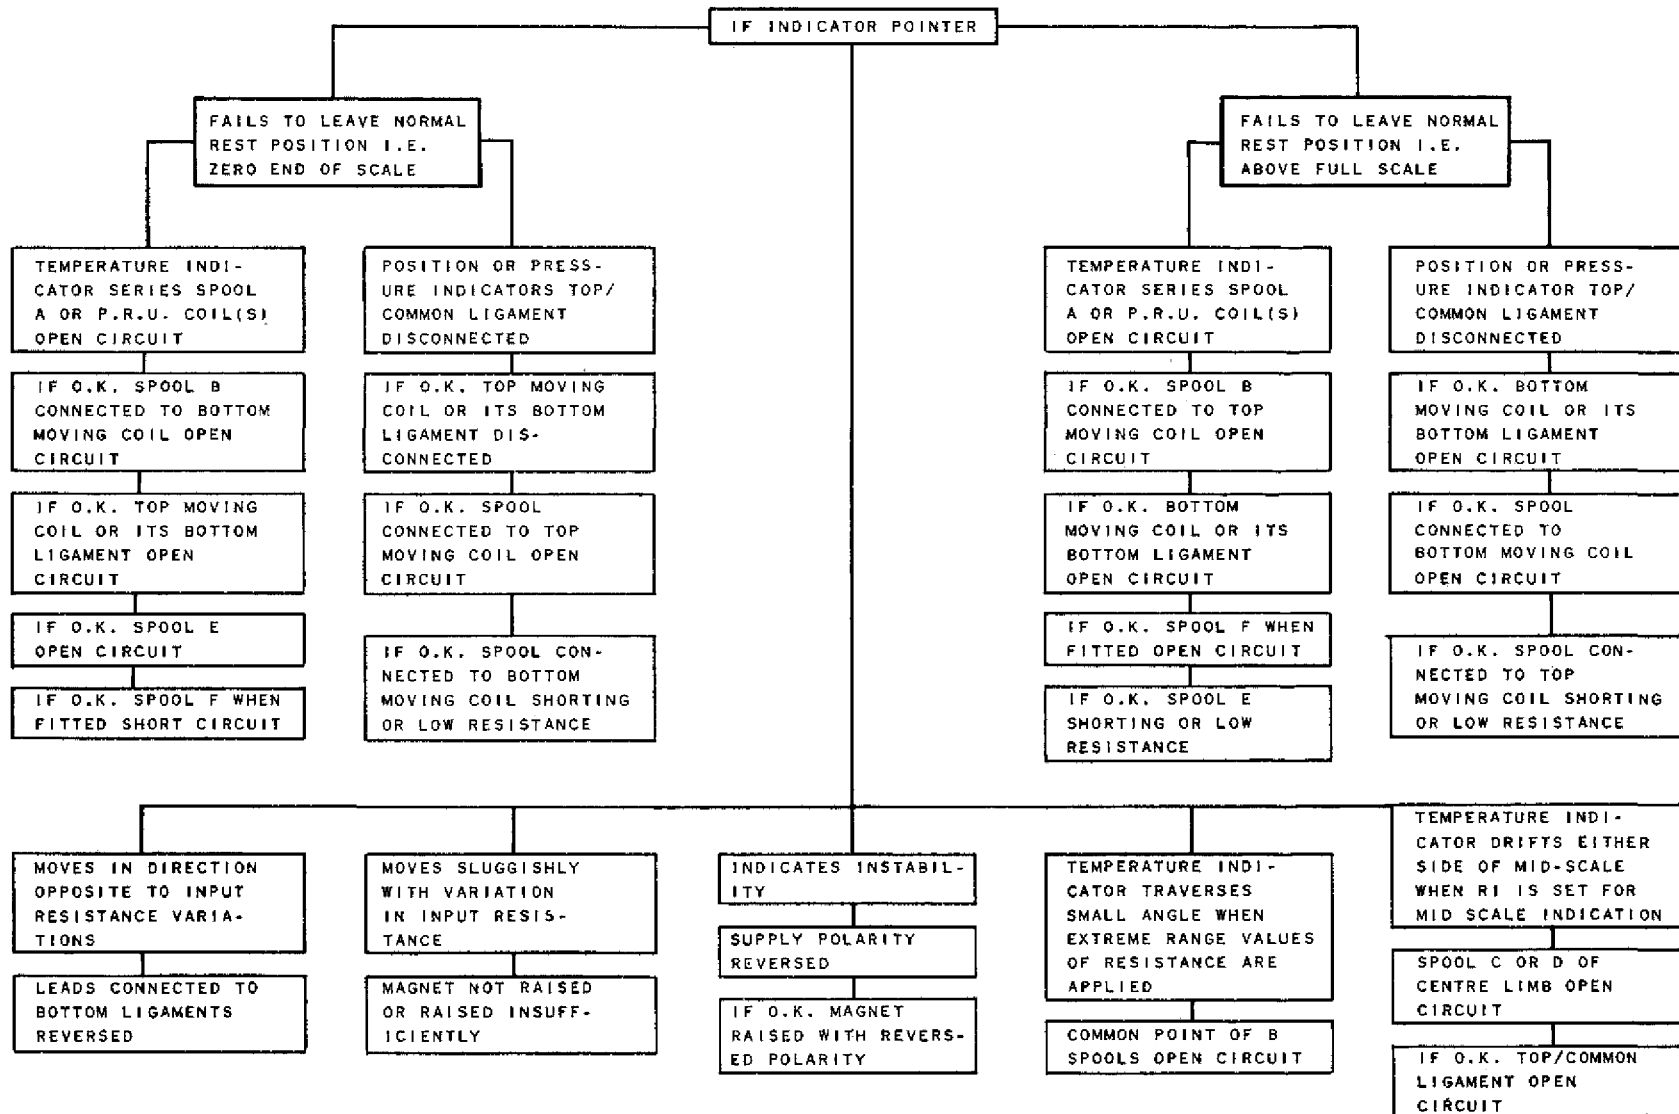

Fig. 8 Trouble shooting chart
9. Trouble shooting (Fig.8)
- (1) Check fault against trouble shooting chart, Fig.8 and adopt procedure suggested.
- (2) After correction of fault and any reassembly, retest indicator.